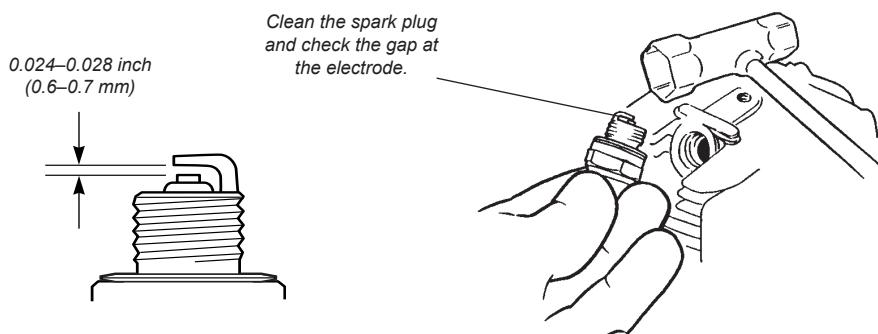

Figure 19
- Remove and clean the spark plug. Adjust the spark plug electrode gap to 0.024–0.028 inch (0.6–0.7 mm). If the spark plug must be replaced, use only an NGK CMR5H or equivalent resistor type spark plug of the correct heat range. See Figure 19.